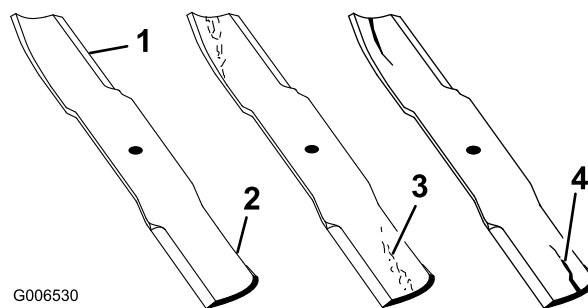

Figure 43
1. Inspect the cutting edges (Figure 43).
2. Inspect the blades, especially the curved area (Figure 43).
Note: If you notice any damage, wear, or a slot forming in this area (items 3 and 4 in Figure 43), immediately install a new blade.